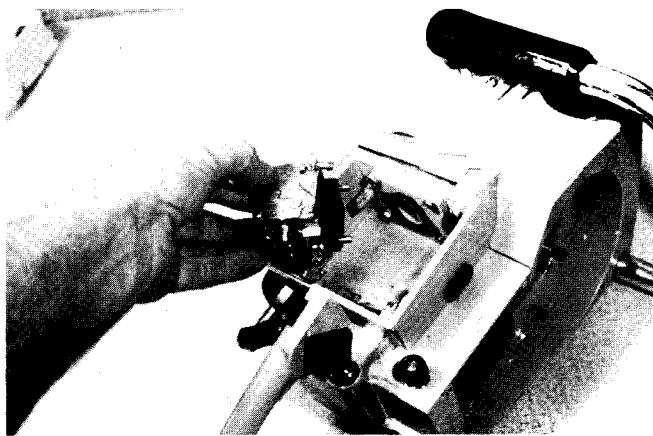

Fig. 29 — Removing Carburetor
8. Disconnect fuel line and remove carburetor observing order and positioning of gaskets, Fig. 29.
17. Install carburetor making sure all gasket holes are aligned, Fig. 29.